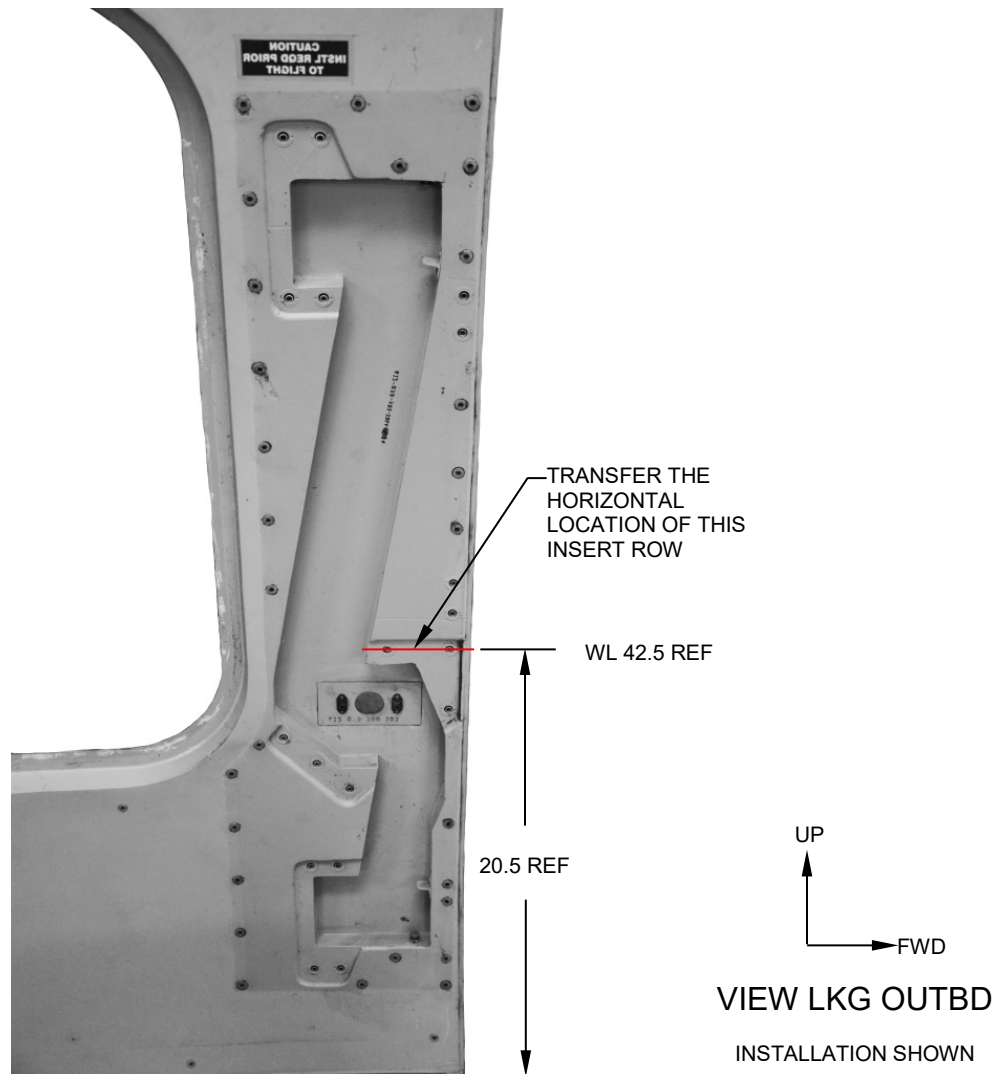

Figure 24
1. Gain access to the inside of the passenger compartment door by removing the panel, and associated hardware. Reference Figure 24.
2. Transfer the horizontal location of the row of inserts, to the outside of the door using tape or other means. Reference Figure 24 & 25.
4. Mark the three hole locations in the Template, Detail onto the door. **NOTE:** Ensure the three locations do not interfere with any of the existing potted inserts on the opposite side of the door. Reference Figure 24.